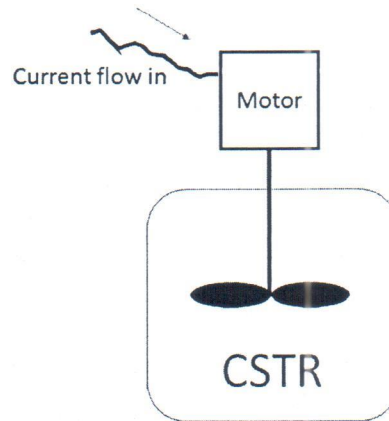

Figure Q.2.[b]
- [b] A continuous stirred tank reactor CSTR as shown in Figure Q.2.[b] is used for conducting a polymerization reaction. Before the reaction start, the motor is turned on to promote the proper mixing of monomer precursor. Analyze this process, by taking (i) only CSTR, and, (ii) CSTR and motor as system by using First Law of Thermodynamics. Use your analysis to justify whether in both cases the internal energy gain is the same or not? [10 marks]